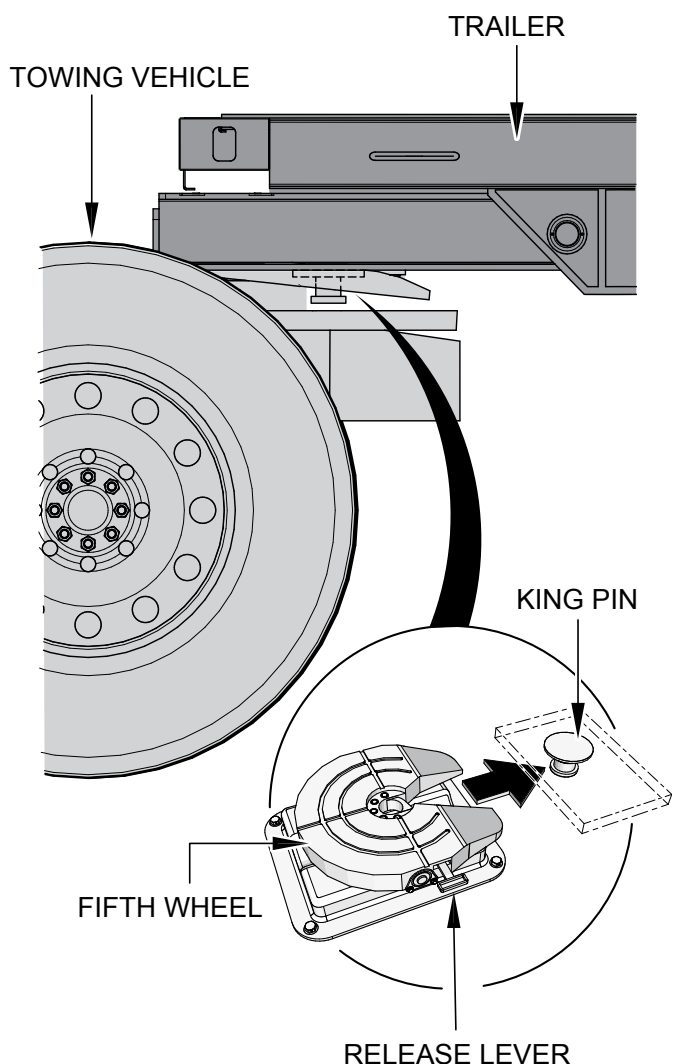

Figure 12. Trailer Kingpin to Tow Vehicle Fifth Wheel
1. Slowly back up the tow vehicle, keeping the kingpin centered in the slot of the fifth wheel. Continue backing up until the fifth wheel locks firmly on the kingpin (Figure 12).